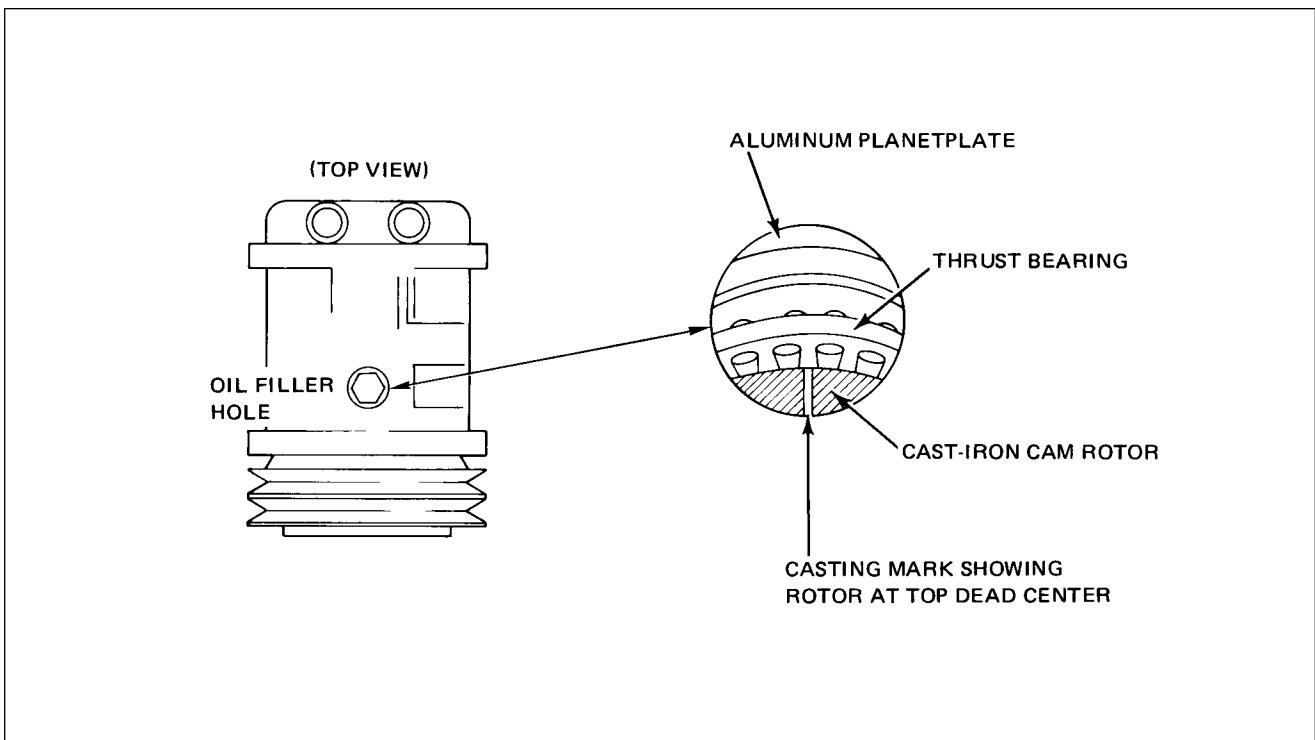

Figure 21-12. Top Dead Center Casting Mark (Sankyo Compressor)
- D. Position the rotor to top dead center (refer to Figure 21-12) by rotating the clutch front plate until the casting mark is visible in the center of the hole.